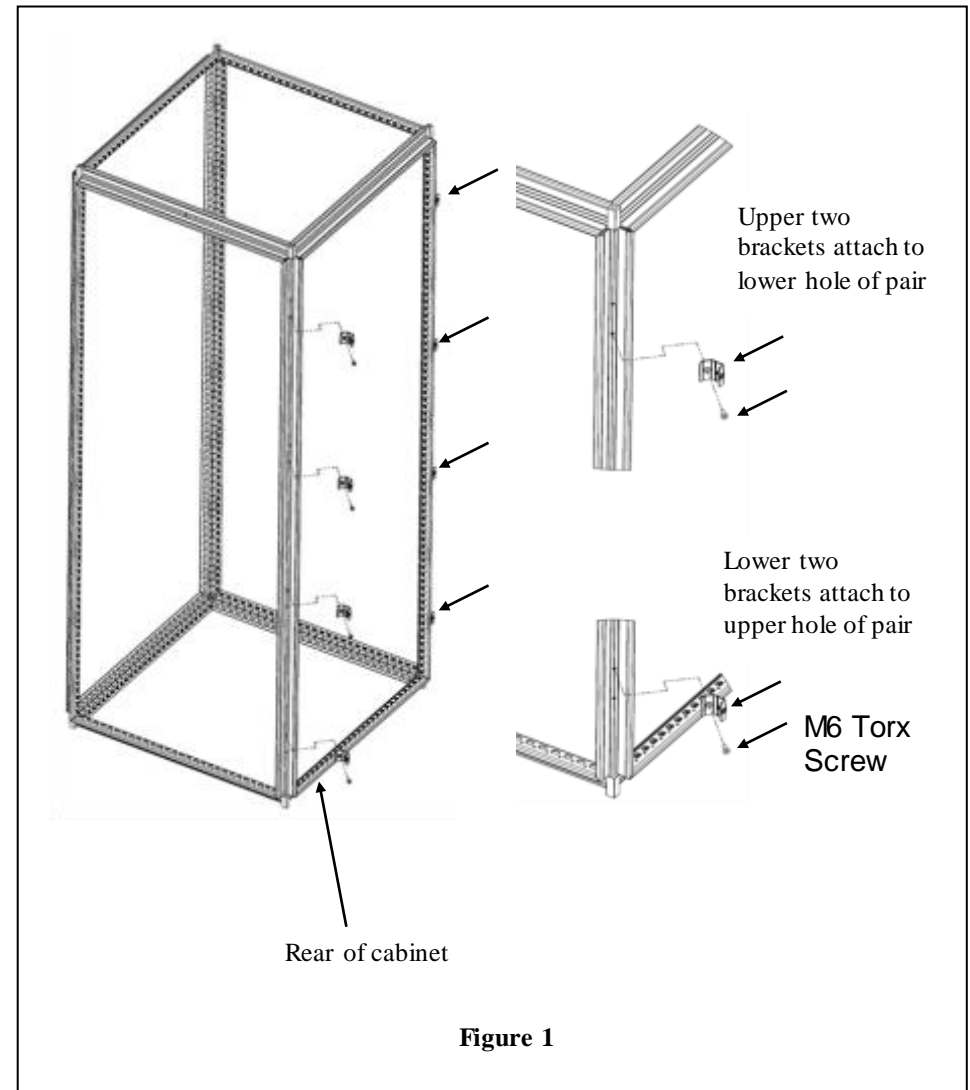

Figure 1
1. Attach (8) Panel mount brackets, four (4) on each side, to the frame as shown in Figure 1 with the M6X16 Torx screws provided, torque to 55in-lb[6.2N-M].